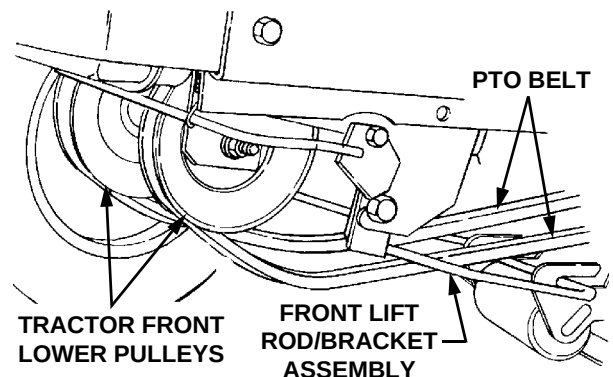

Figure 43
14. Twist the two sides of the PTO belt 1/4 turn inward to engage the narrow sides of the belt into the grooves of the two tractor front-lower pulleys (See Figure 43).